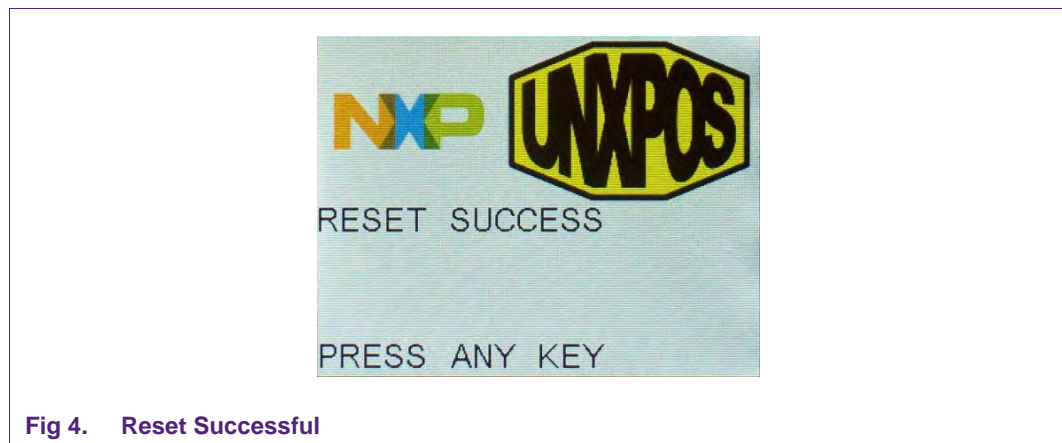

Fig 4. Reset Successful
5. Put the MIFARE DESFire card on the antenna of the reader in order to create a payment application on the card. By doing this an initial amount of 500.00 credits is also stored on the card which can be consumed during the payment showcase. After this procedure the message "RESET SUCCESS" is displayed as shown in Fig 4.